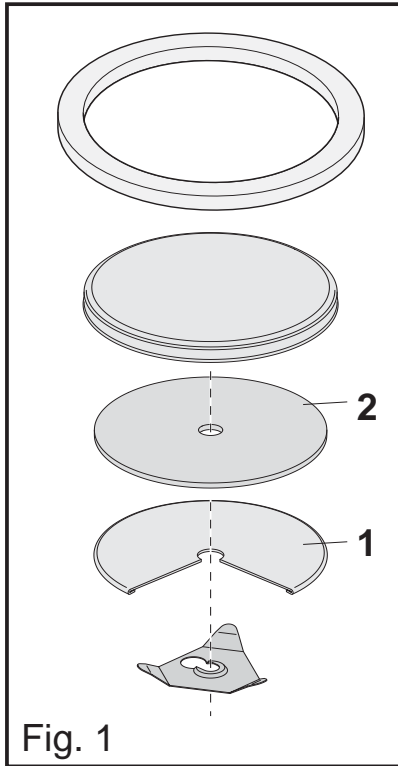

Fig. 1
- insert it diagonally from above, (Fig. 1)
- place it on the support of the filter plate holder (1), (Fig. 1)
- push it forwards in horizontal position to the scraper arm support (2), (Fig. 1)
- Mount the filter plate. Make sure that the lock engages and that the filter plate is guided between the scraper arms. Ensure that the disc (1) is positioned correctly. (The smooth side must face to the sealing (2).) (Fig. 1, 2)
- Press the lock (2) at the bottom of the container console downwards, remove the product container (1) towards the front and empty it. (Fig. 1)
- Unlock the cash-box (1). (Fig. 1)